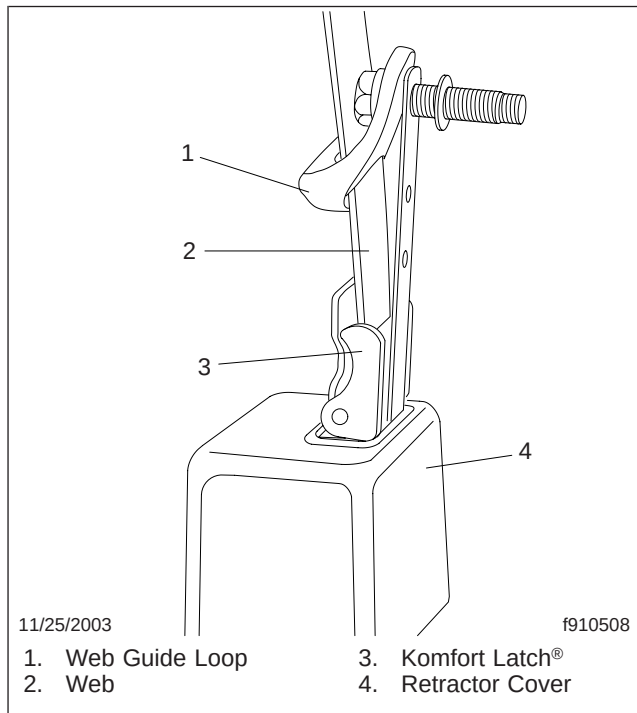

Fig. 1, Retractor in the 90-Degree Position
2. Verify that the retractor is mounted in the 90-degree position, as shown in Fig. 1.